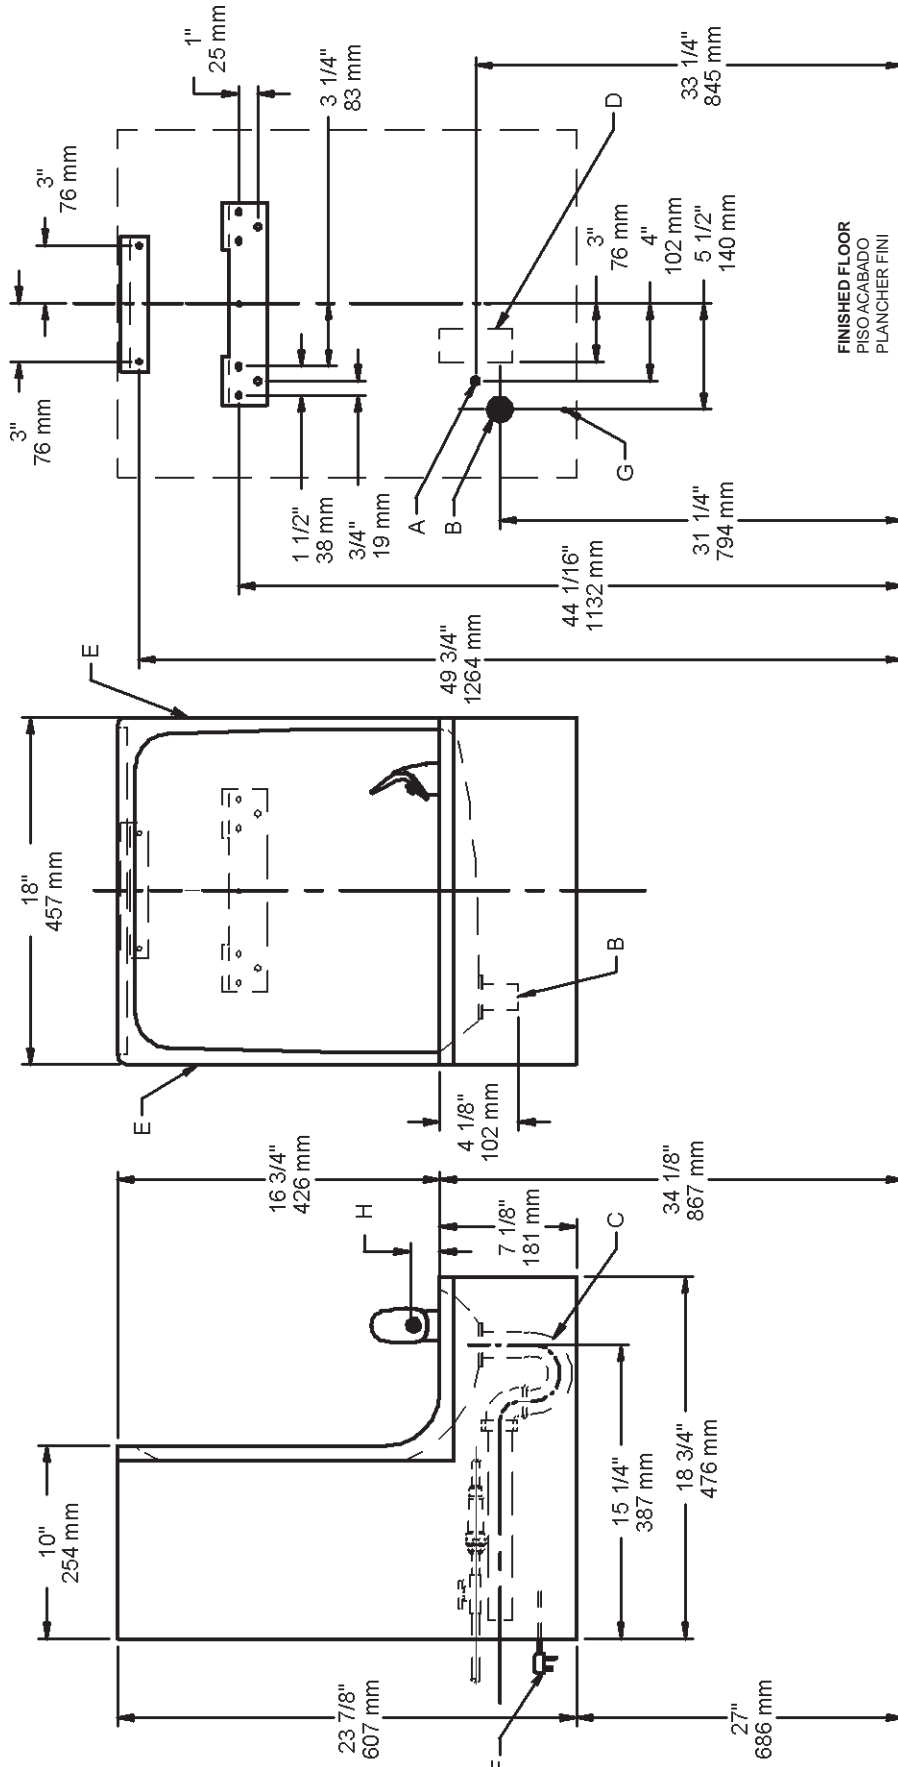

FIG. 2
- 1) Remove hanger brackets fastened to back of cooler by removing one (1) screw.
- 2) Mount the hanger brackets and trap as shown in Figure 2.
- 4) Hang the cooler on the hanger brackets. Be certain the hanger brackets are engaged properly in the slots on the cooler back as shown in Figure 2.
- 5) Loosen the two (2) screws holding the lower front panel at the bottom of cooler base. Remove the front panel and set aside.